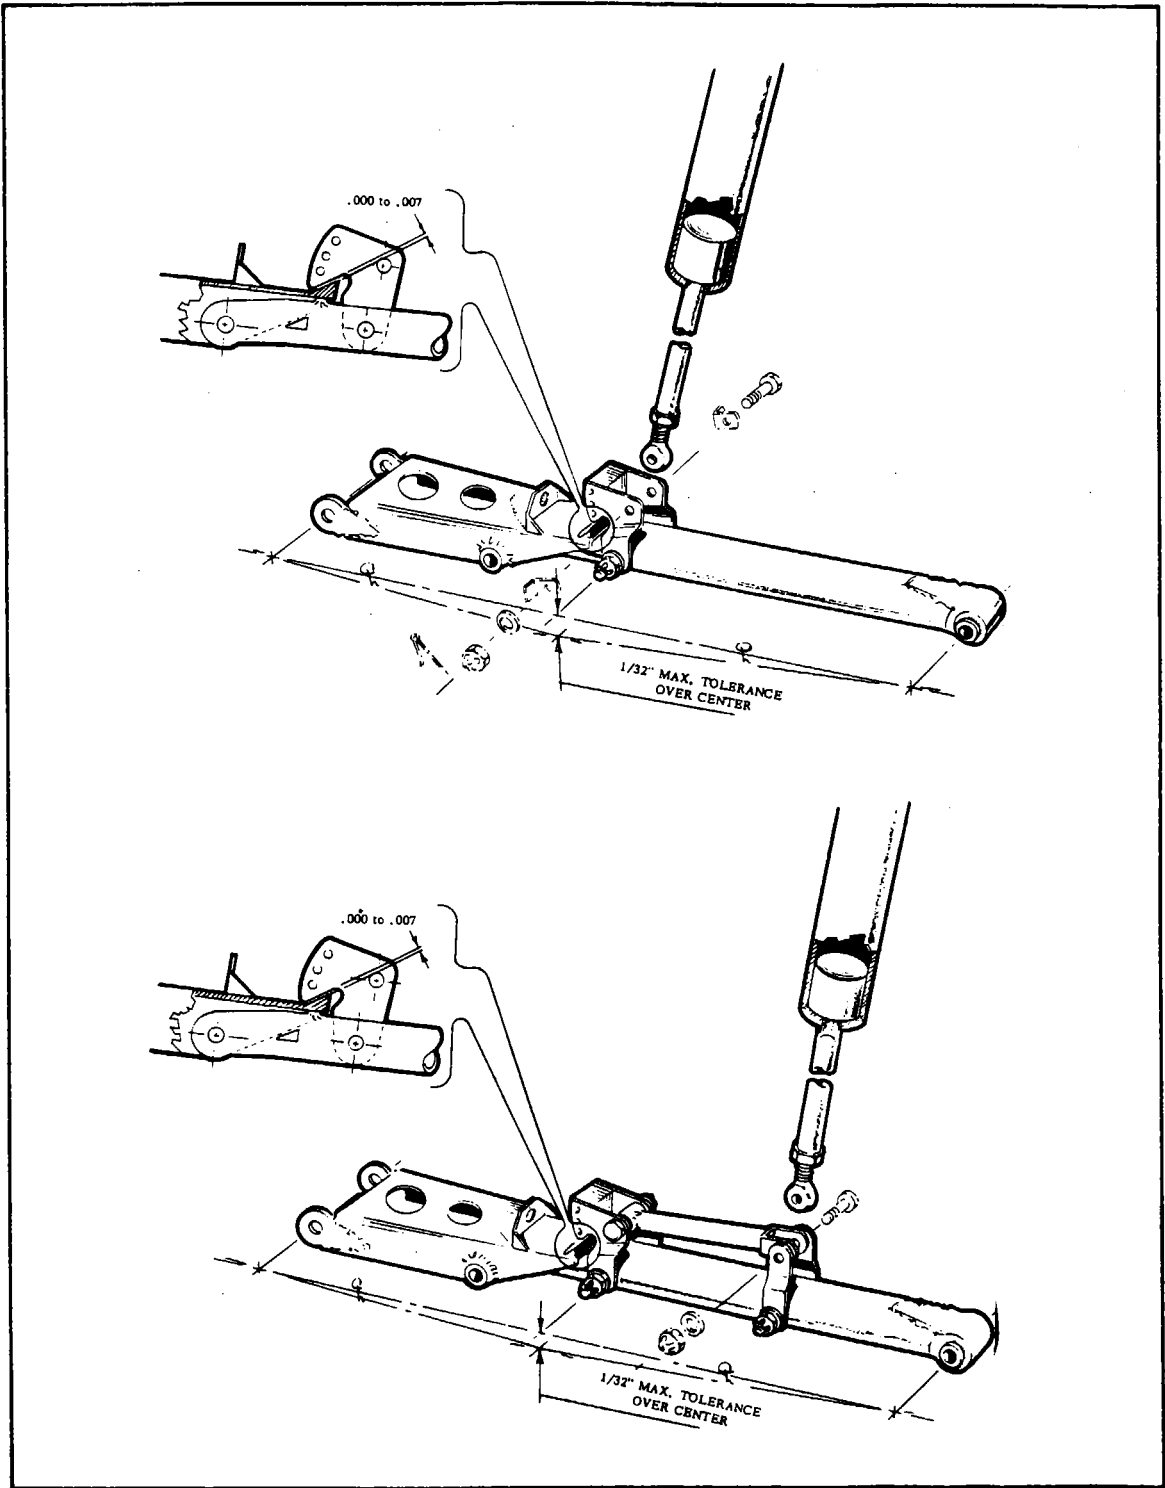
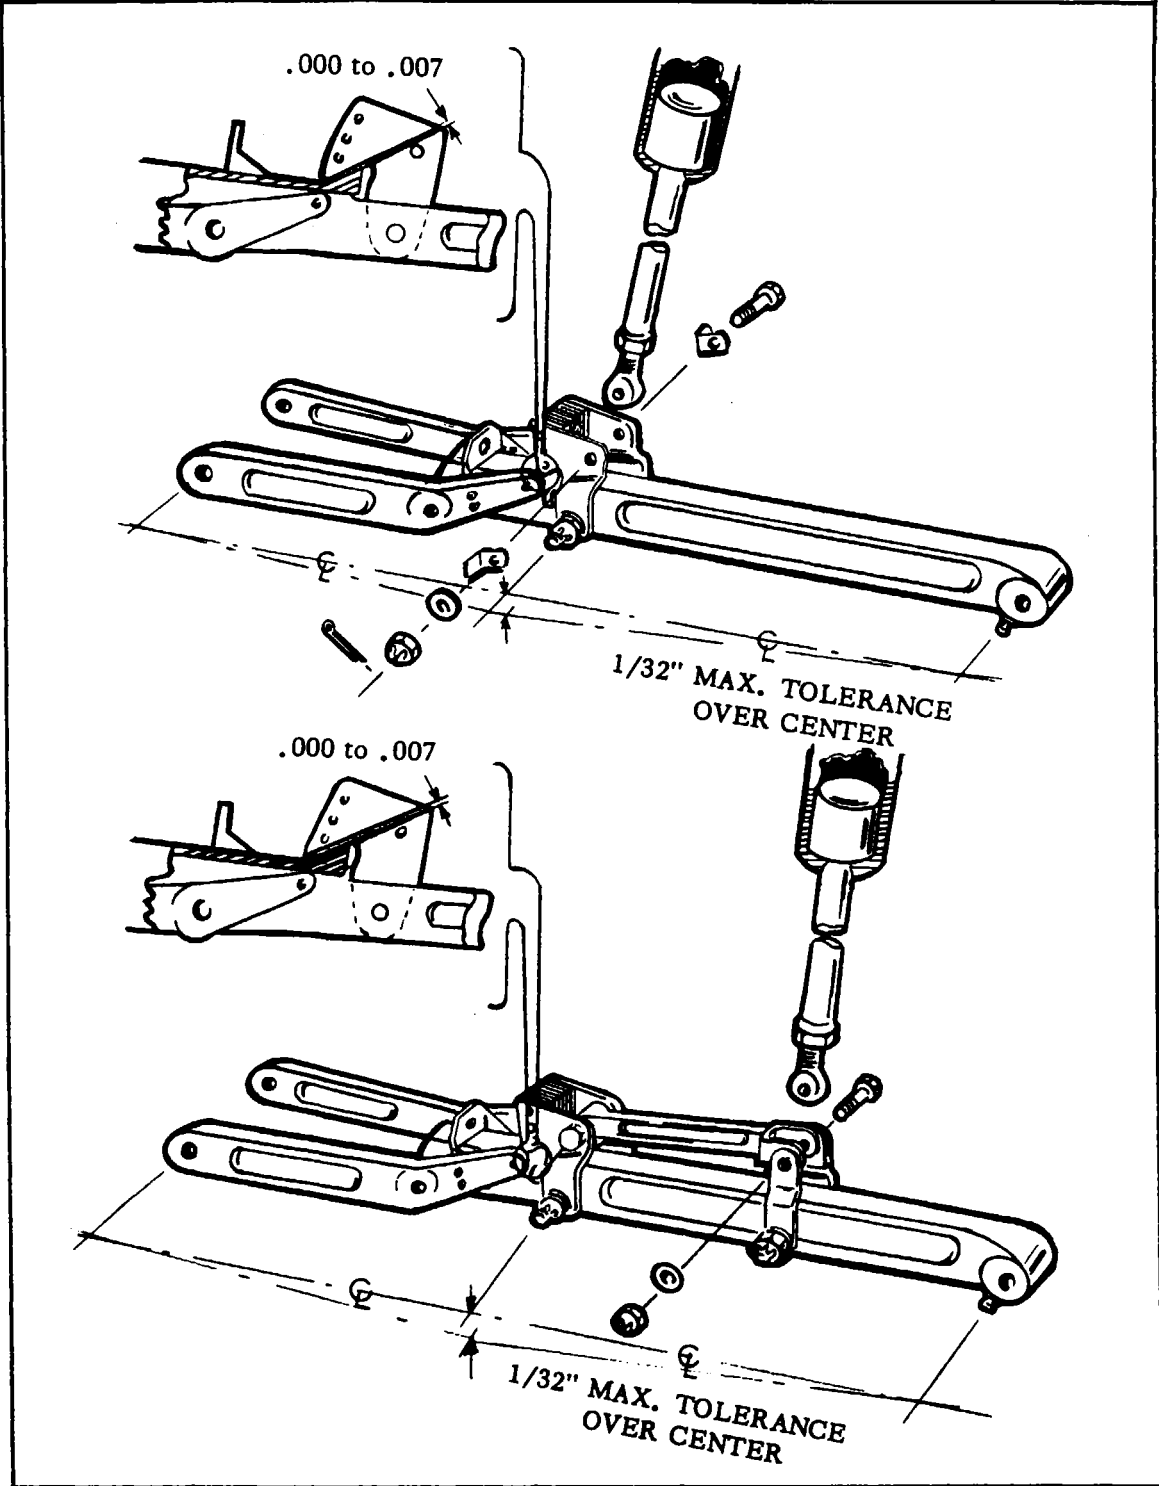

Figure 7-3. Landing Gear Drag Link (Fabricated Type)
Figure 7-4. Landing Gear Drag Link (Forged Type)
- b. Remove the bolt connecting the actuator cylinder shaft rod end bearing to the down lock latch. (Refer to Figure 7-4 or Figure 7-3.)